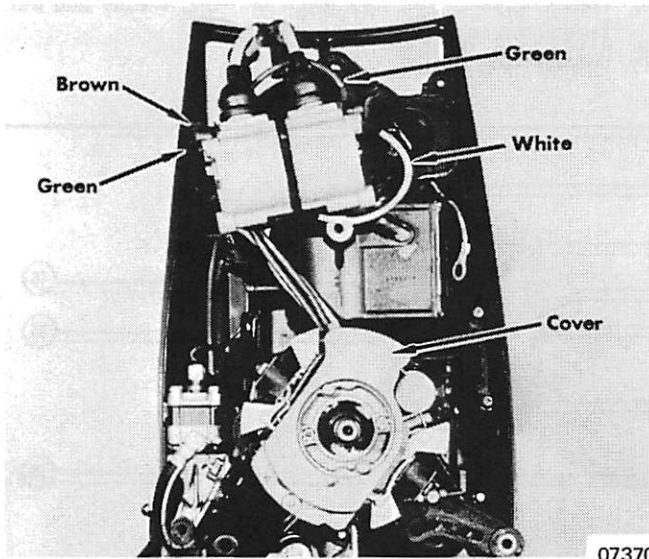

Figure 1. Ignition Coil Leads
6. Remove green (+) and brown (-) leads and green (+) and white (-) leads from coils. Remove salmon lead from stop switch. (Figure 1)